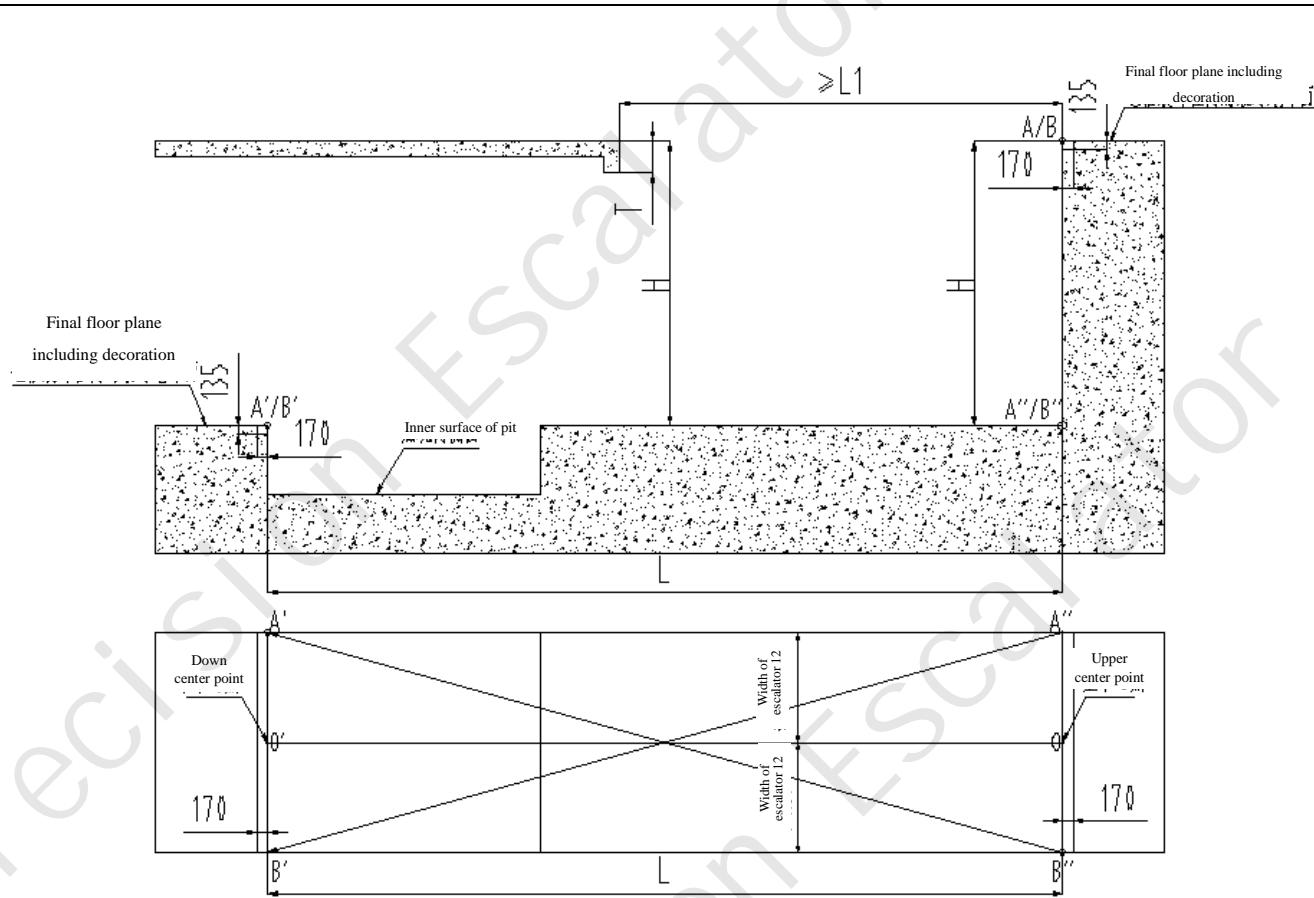

Figure 2 Repetition Measurement of Escalator's Civil Engineering
a. Repetition measurement should be conducted for level supporting point of the upside and downside of escalator. Re-check whether the correct leveling supporting distance required by inclined angle of escalator accords with requirement of design. Step size, embedded parts, and the level of two horizontal anchor meets the installation requirements. If it does not meet, relative unit should tame measure timely. See details in the Figure 2 below
f. Find out the installation central point 0,0' of the whole escalator in the separation distance of the upper and lower beams. Mark the installation center well; and mark at A. B. A'.B' well on the center of the upper and lower beams (width of the escalator/2). The measured width 170mm+10/0mm of steps of the upper and lower beams should accord with the requirements of the dimensions of the construction layout drawing (see Figure 2) to ensure that there is no difference on the horizontal distance of the width when the escalator is installed. The allowed error of the civil engineering should be less than the requirements of the dimensions of the civil engineering;
g. The surface of the inner side of the upper and lower beams (near the escalator) must be vertical straight in the height scope of 1200mm. Embossment on the wall surface is not allowed (see Figure 2);